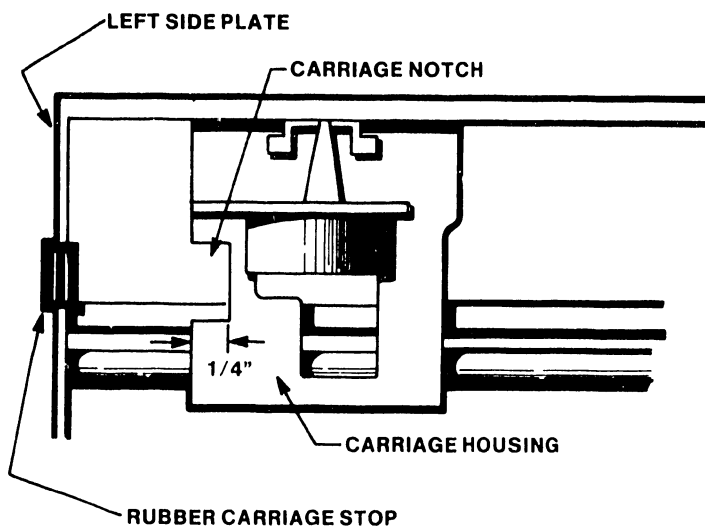

Figure 5-3A Carriage Notch
NOTE: For printers with a notch on the carriage housing verify that the notch is 1/4" and not 1/8" as shown in Figure 5-3A. If the notch measures 1/8" perform the following steps.
- c. Using a metal file increase the notch to 1/4" as shown in Figure 5-3A.